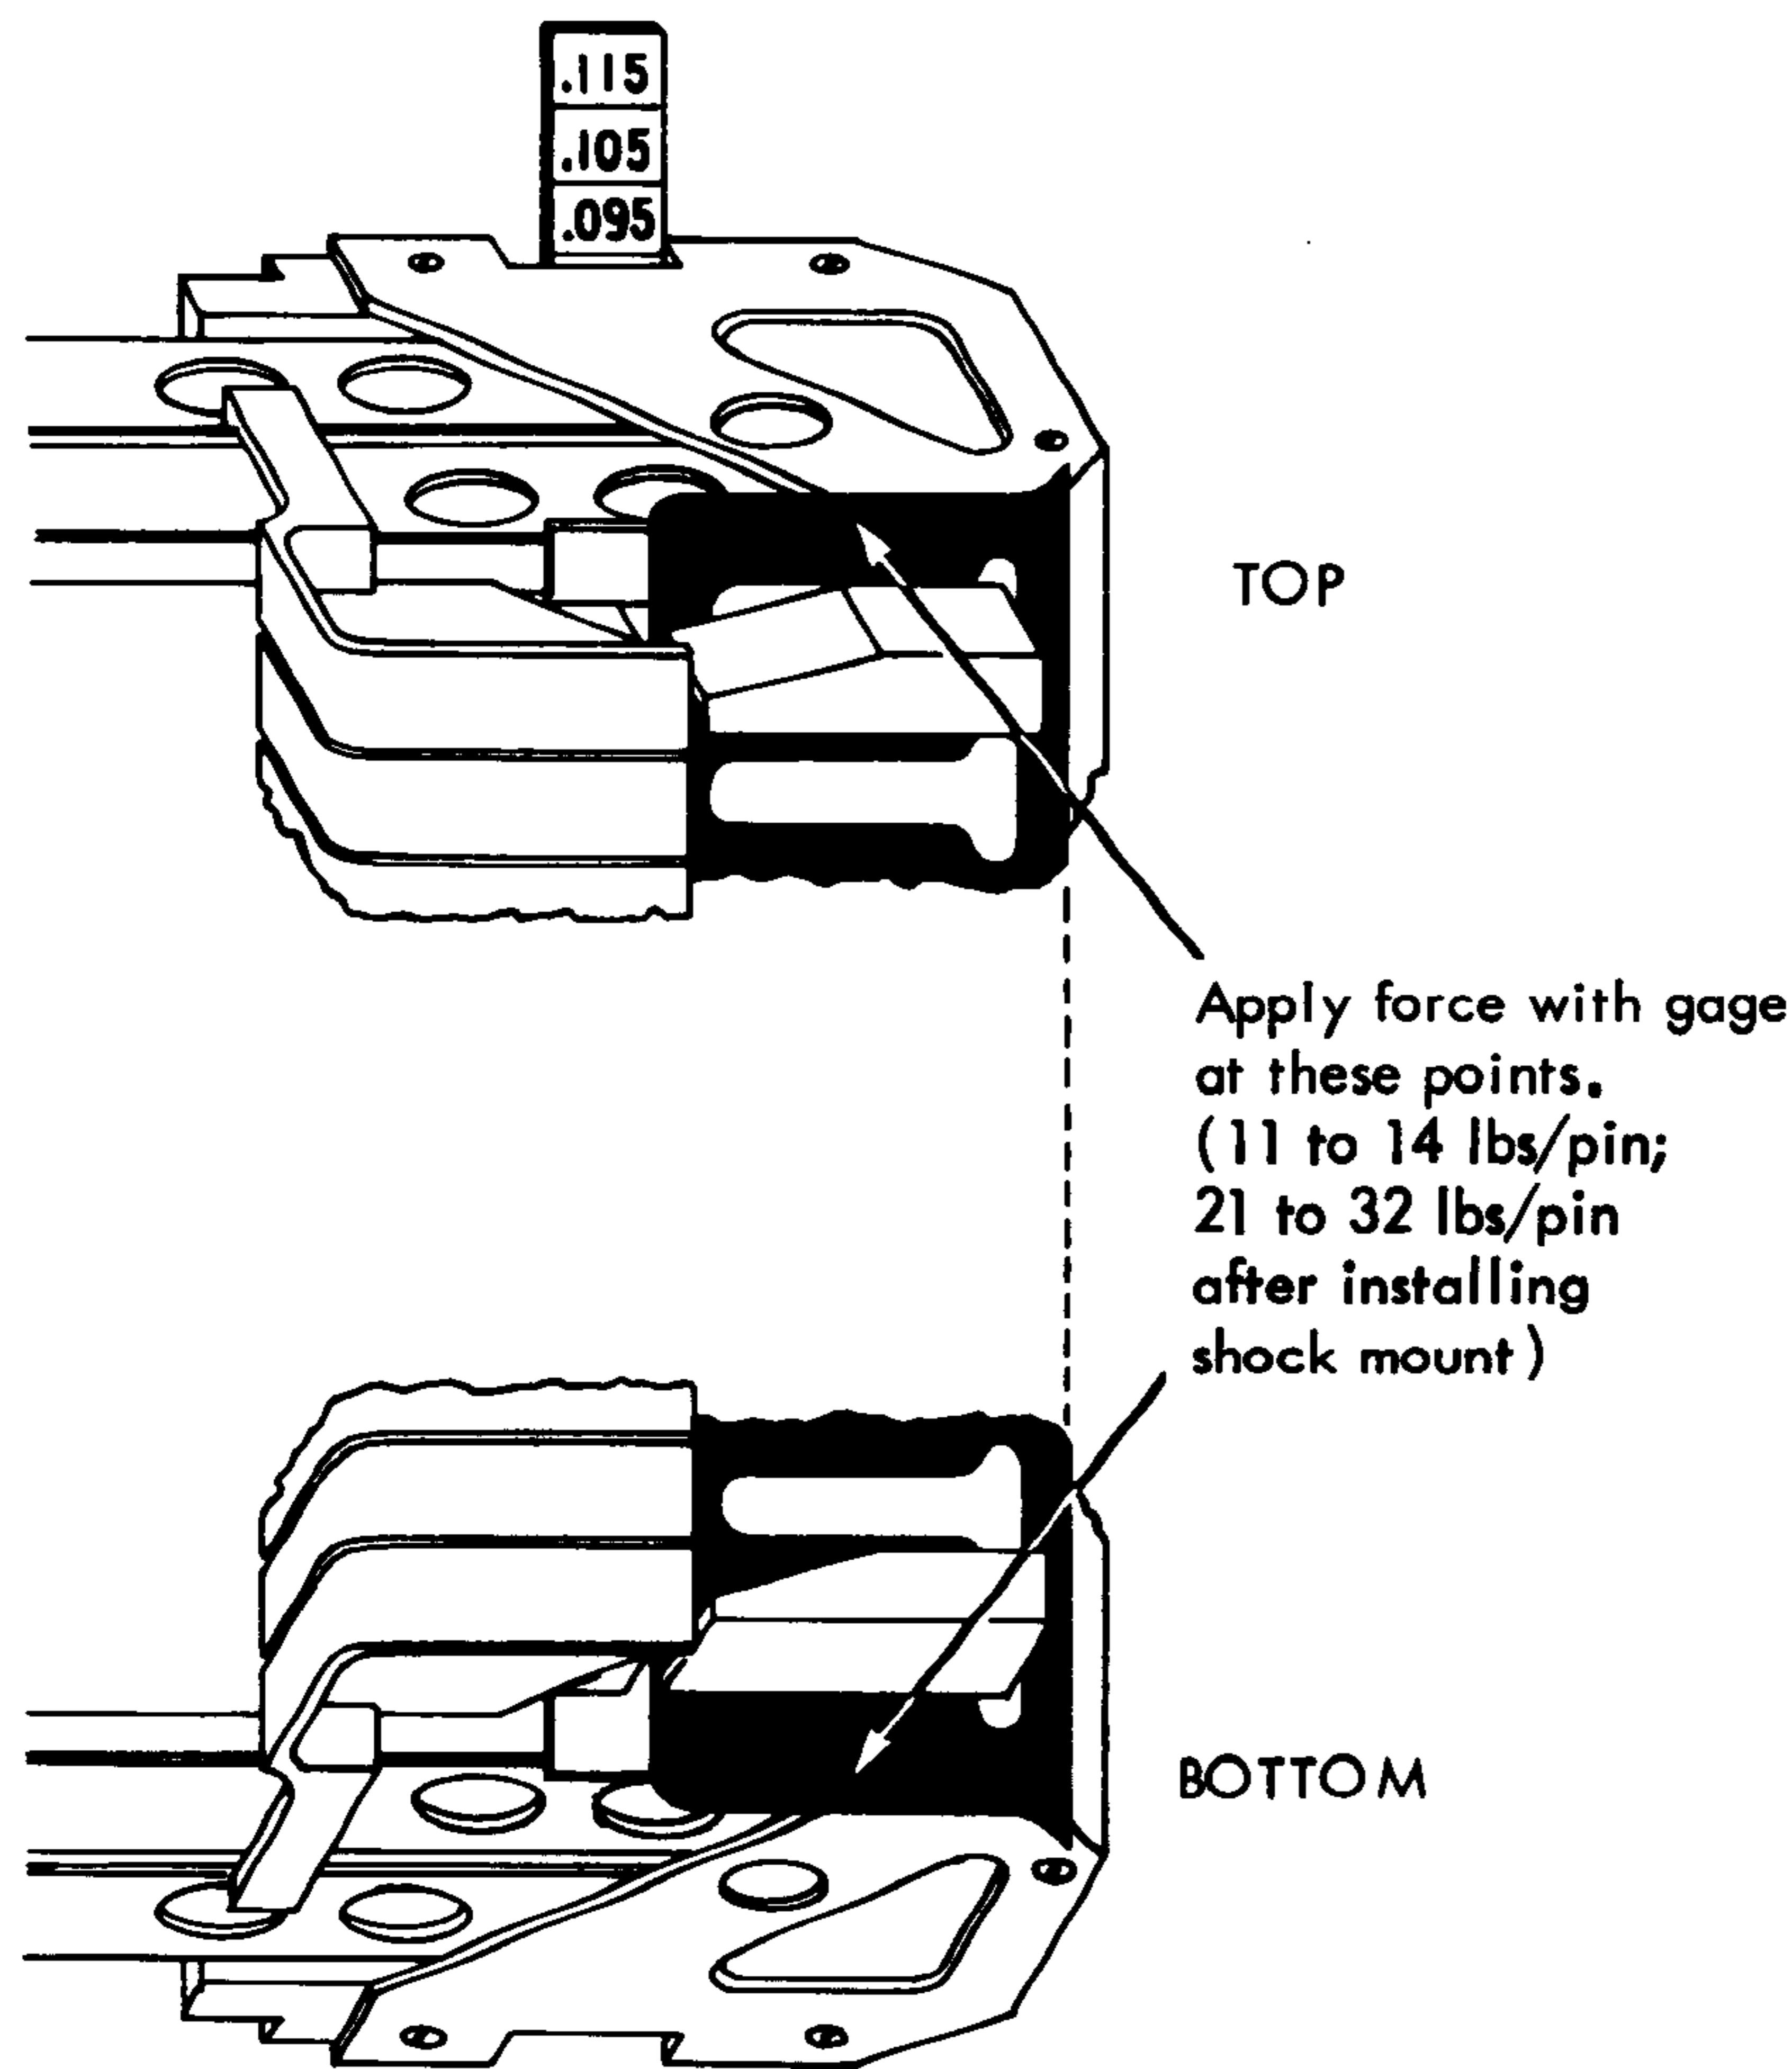

Figure 2-35. Force Measurement
10. After the receiver is installed to the new actuator, check the force required to easily engage the diamond pins in their carriage position (Figure 2-35). If the required force is not within the 11 to 14 lb range, add or subtract shims as shown in Figure 2-36.
- a. With receiver locked to carriage, measure the distance between receiver and carriage with gage P/N 2108576 as shown in Figure 2-35.
- b. Note the number which appears on the gage just above the receiver (.095" as shown in Figure 2-35). This should indicate the shock mount to be used.
- e. Swing receiver in, and with a force gage, measure the force required to freely disengage each diamond pin (Figure 2-35). This force should be a minimum of 21 pounds at each pin but if it exceeds 32 pounds, use the next lower thickness shock mount.